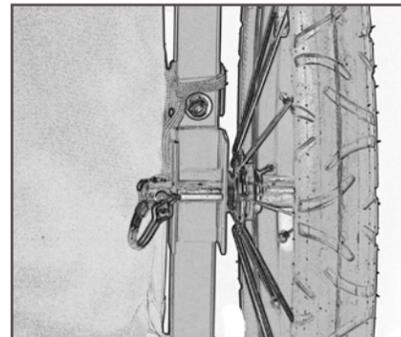

Figure 11
5. Slide the Quick-Release pin (tethered to the bike frame near the wheel bracket) through the hole in the stub axle and loop the end over the shaft of the pin (Fig. 11). Repeat for the other wheel.